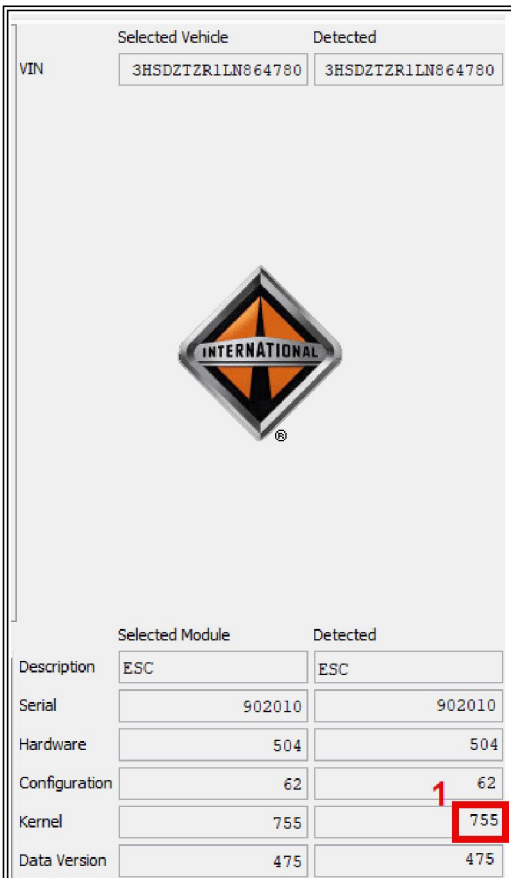

Figure 3: After Programming
4. After programming is complete, verify the detected BCM version matches the selected and shows kernel 755 or later (Figure 3, Item 1).